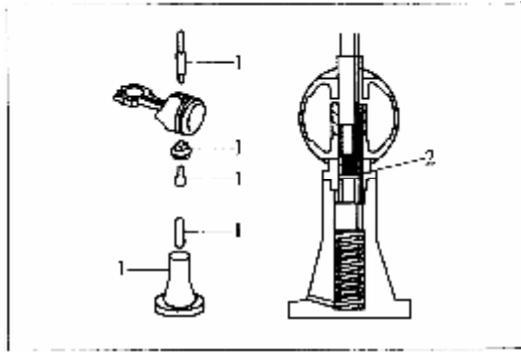
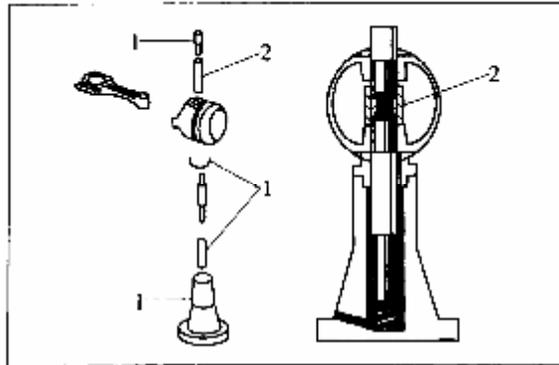

Figure 3-33 Special Tools to Dismantle Piston and Connecting Rod Assemblies
Figure 3-34 Special Tools to assemble Piston and Connecting Rod Assemblies
**3.3.5** Use special tools to disassemble and assemble piston and connecting rod assemblies. The usage for special disassembling tools are as shown in Figure 3-33. The usage for special assembling tools are as shown in Figure 3-34.